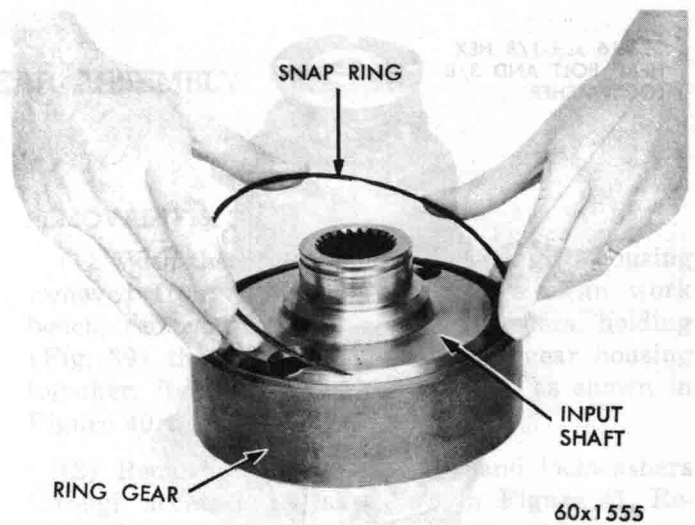

Fig. 45—Installing or Removing Large Snap Ring to Input Shaft
(4) Remove the large snap ring and separate the ring gear from the input gear, as shown in Figure 45.
Install the ring gear on the input shaft and assemble the large snap ring firmly in place, as shown in Figure 45.